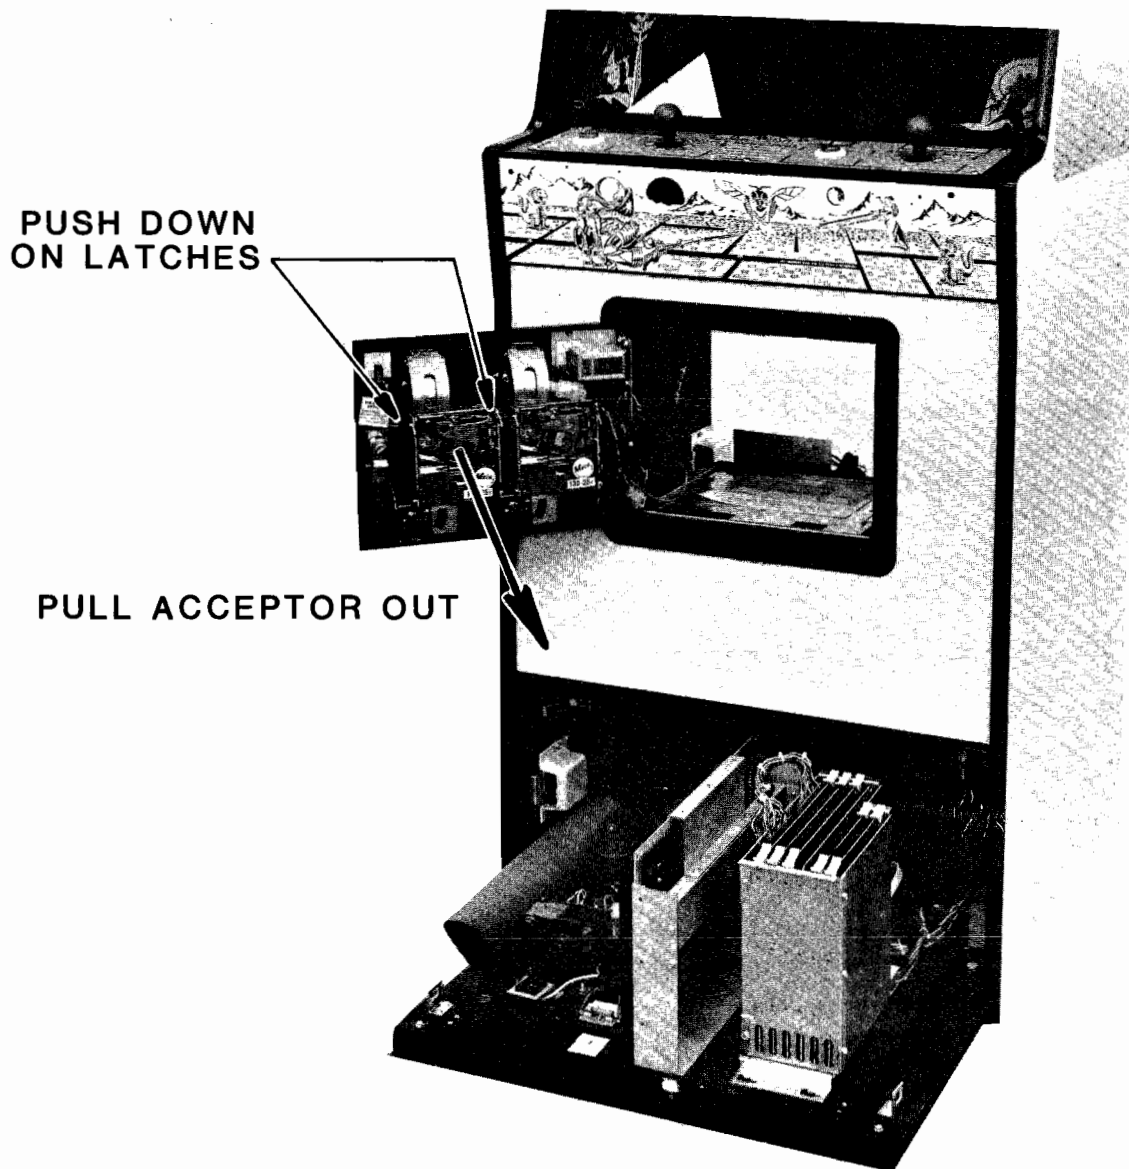

FIG.35
- d. Clean the magnet of all foreign particles. See Figure 35.
- i. Place the acceptor in boiling water for about ten (10) minutes.